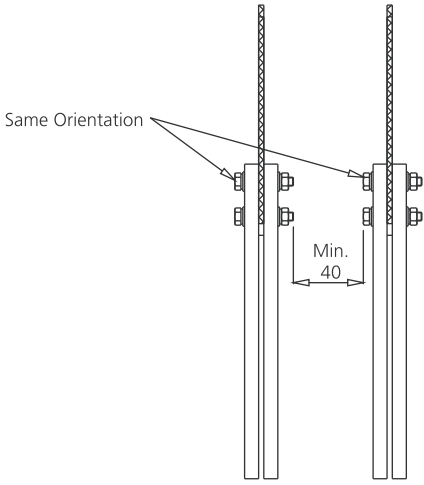

Fig 12
- Min. phase clearance between phases to be measured as per fig.12